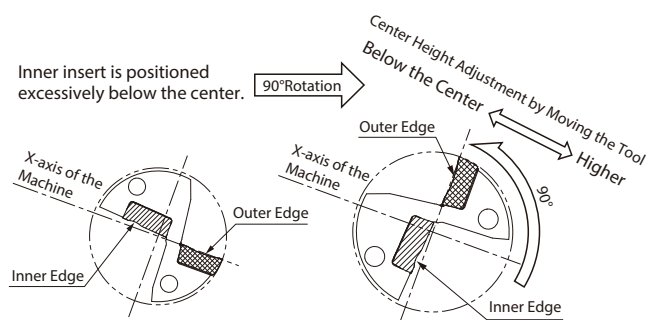

Fig.14
- Install the drill rotating 90° as shown in Fig. 14. (Outer insert is positioned on the upper side) and adjust the centre height by moving tool in the X-axis direction.